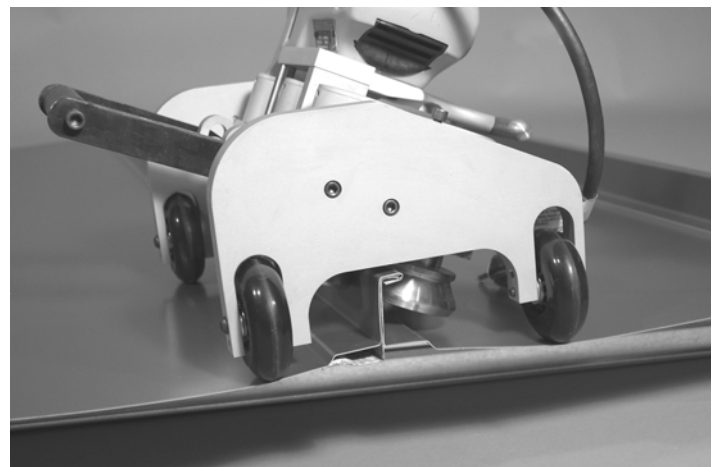

Figure 4: Close-up view of the Seamer Roller Dies in proper position to form the seam.
8. Use the Die Lever Handle to close the Die Rollers over the sidelap (Figure 4). If the gears are not properly meshed (thus preventing dies from closing), "jog" the motor until the gears mesh, allowing the dies to be closed.